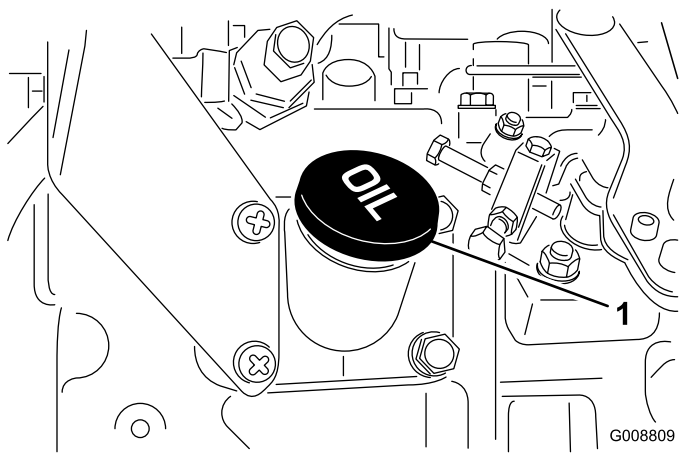

Figure 34
4. If the oil is below the safe range, remove the fill cap (Figure 34) and add oil until the level reaches the Full mark. **Do not overfill.**